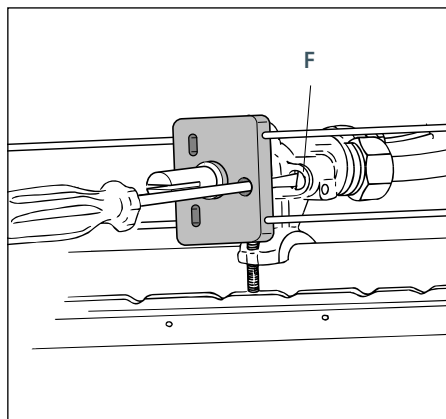

Fig. 9a
- Using a thin screwdriver, pass by the hole of microswitch and turn the screw "F" until adjustment is correct (Fig. 9a).